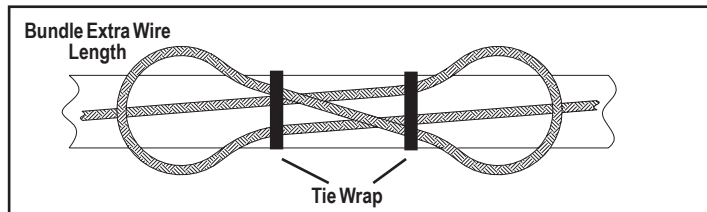

FIGURE 3 - BUNDLING EXTRA WIRE LENGTH
5. Where the harness length is more than needed, reroute harness, or tie extra harness as shown in Figure 3.